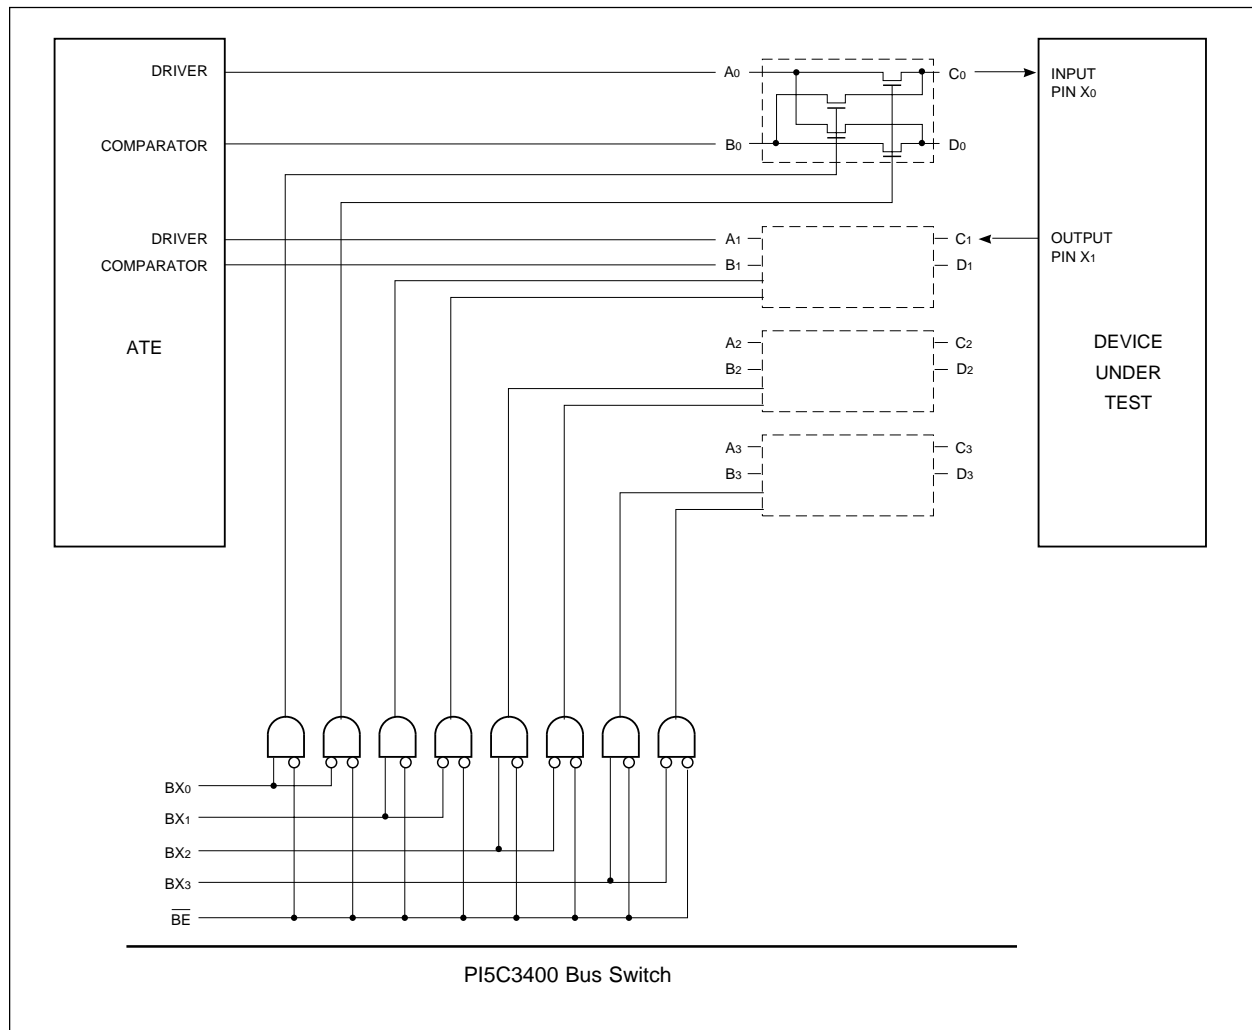

Figure 20. Test Pin Selection Under Individual Control.
- **ATE Test Pin Function Selection:** Using Pericom's PI5C3400, each test pin can be programmed individually for different test functions. Figure 20 shows that a pin of a Device Under Test may be input or output. The PI5C3400 provides an individual control pin BXi. When BX0 is LOW, A0 and C0 are connected so driver of ATE drives the input pin X0 Device Under Test. Similarly, if BX1 is programmed HIGH, B1 is connected to C1 so comparator of ATE can test output pin X1 Device Under Test.